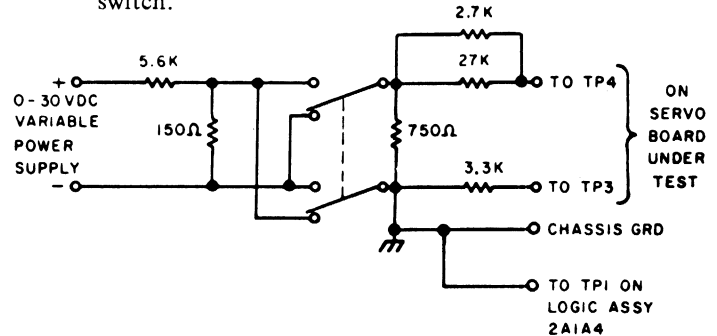

Figure 5.1. Servo Amplifier Test Fixture
5.2.2.3 Special Fixture. Fabricate a test fixture as shown in figure 5.1.
- d. Connect the four leads on the test fixture as indicated in figure 5.1.